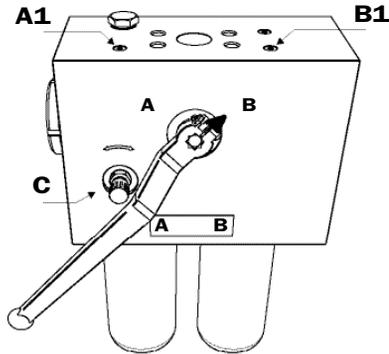

Fig. 1
- 1** Before turning the valve from housing B to housing A, open the balancing valve (pos. C) by turning it counterclockwise. Bleed the air through the plug (pos. A1), the screw must be turned through a maximum of one revolution. After bleeding the air re-tighten the vent plug and close the balancing valve (pos. C) by turning it clockwise (see fig 1).